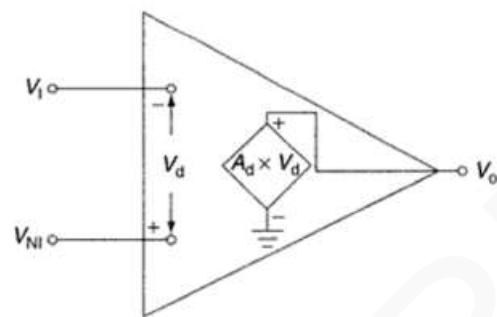

Figure 16.14: Model of ideal opamp
- The ideal opamp model was derived to simplify circuit calculations (Figure 16.14).